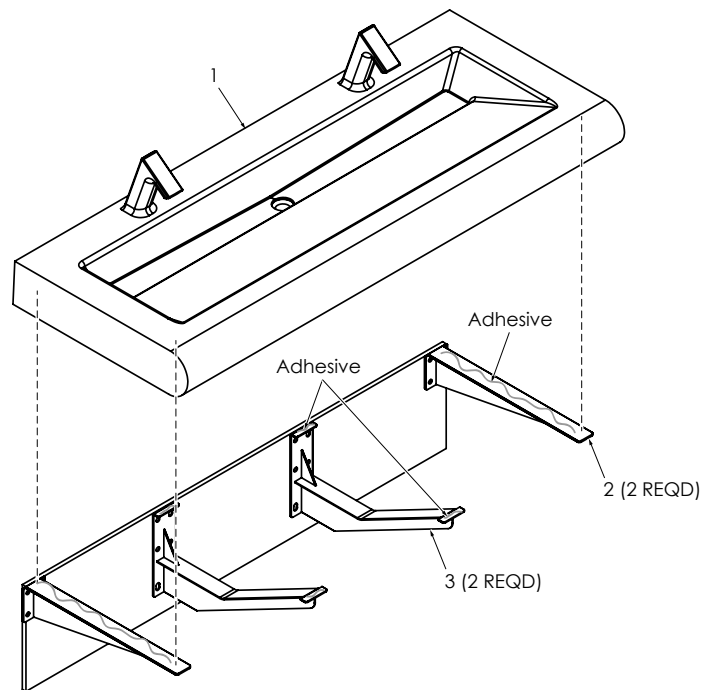

Figure 8
8. Install Deck (1, Figure 8) onto Side and Middle Brackets (2, 3).